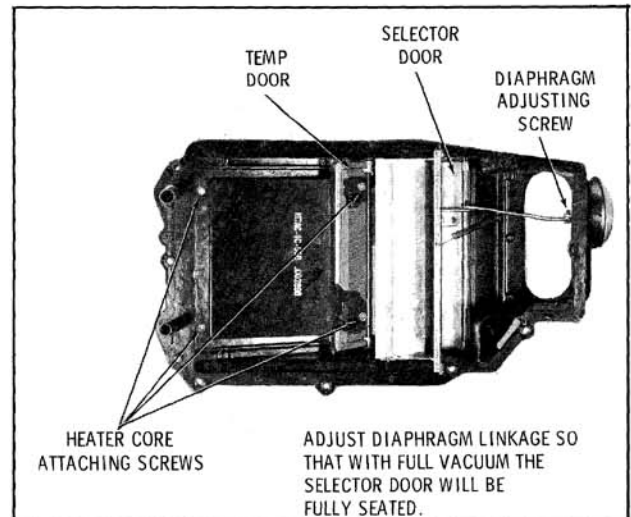

Fig. 14-80 Selector Door (52 through 86 Series)
**Selector Door (Fig. 14-80)**